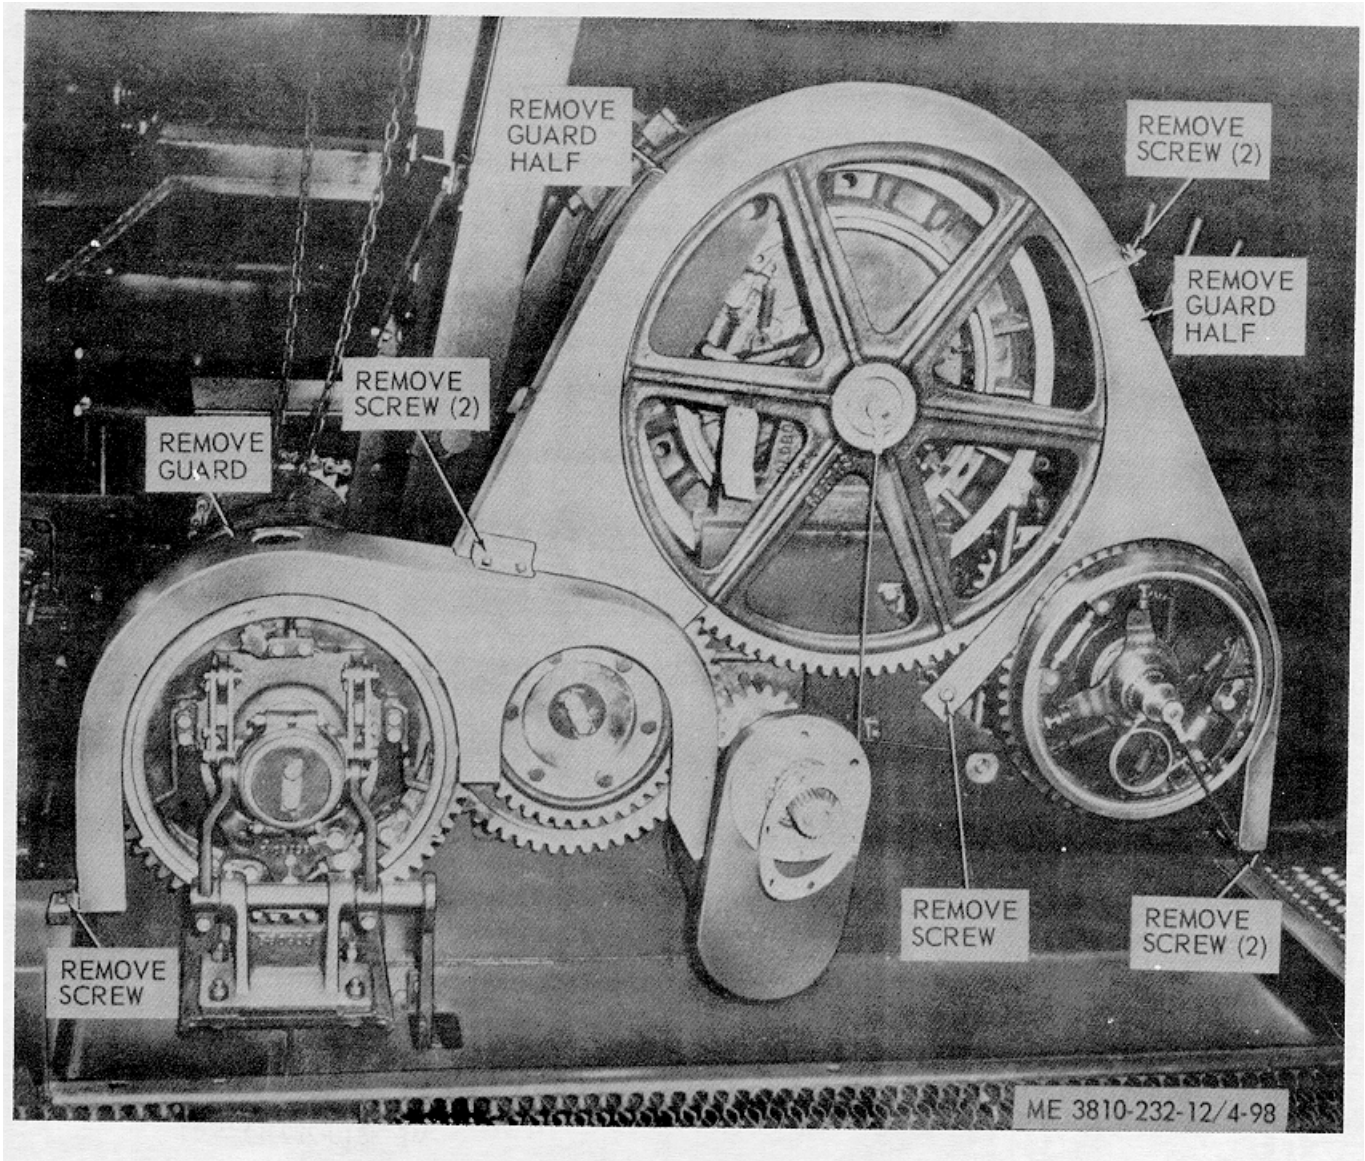

Figure 4-98. Gear guards, removal and installation.
- a. Removal. Remove gear guards as illustrated in figure 4-98.
- (1) Clean guards.
- (2) Inspect for defects, and replace defective
- c. Installation. Install gear guards as illustrated in figure 4-98.